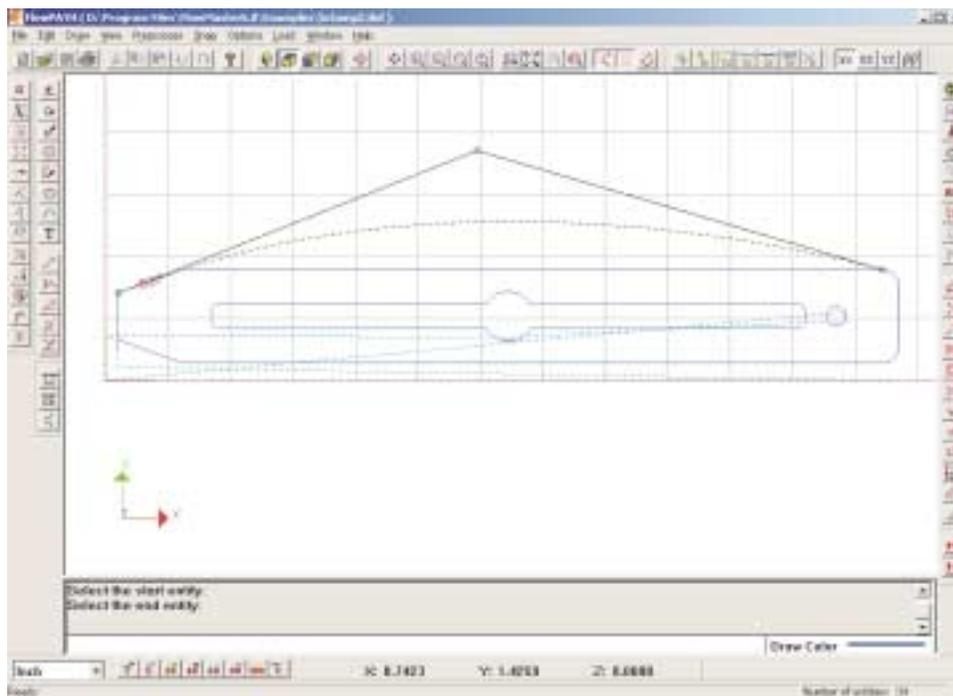

Figure 25. Smoothing example
5. If "Modifiable" was checked, control points appear (see Figure 25). Drag the control points using the left mouse button. If "Modifiable" was not checked, the smoothing process will be automatic.